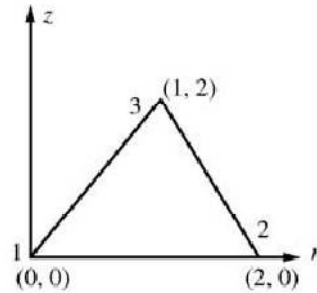

Figure 5
- g) For the axisymmetric elements shown in Figure 5, determine the element stresses. Let $E = 210$ GPa and $\mu = 0.25$. The coordinates (in millimeters) are shown in the figure, and the nodal displacements for each element are $u_1 = 0.05$ mm, $w_1 = 0.03$ mm, $u_2 = 0.02$ mm, $w_2 = 0.02$ mm, $u_3 = 0.0$ mm and $w_3 = 0.0$ mm.